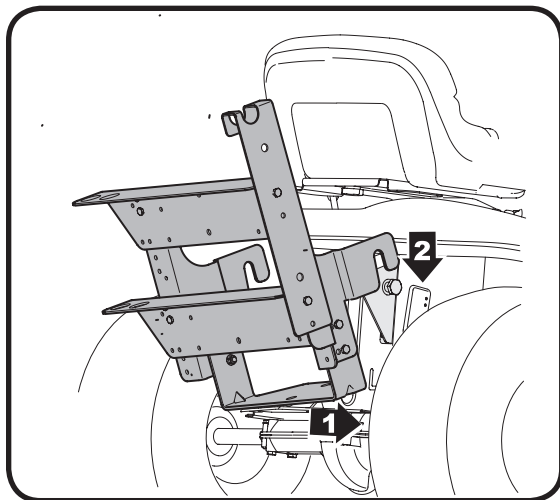

Figure 11
4. Position the hooked ends of the mounting bracket assembly to the outside of the support brackets and over the shoulder bolts just installed on both sides of the tractor frame. See Figure 11.
3. Position the hooked ends of the mounting bracket assembly to the outside of the support bracket and over the shoulder bolts on both sides. Refer back to Figure 11 for reference.